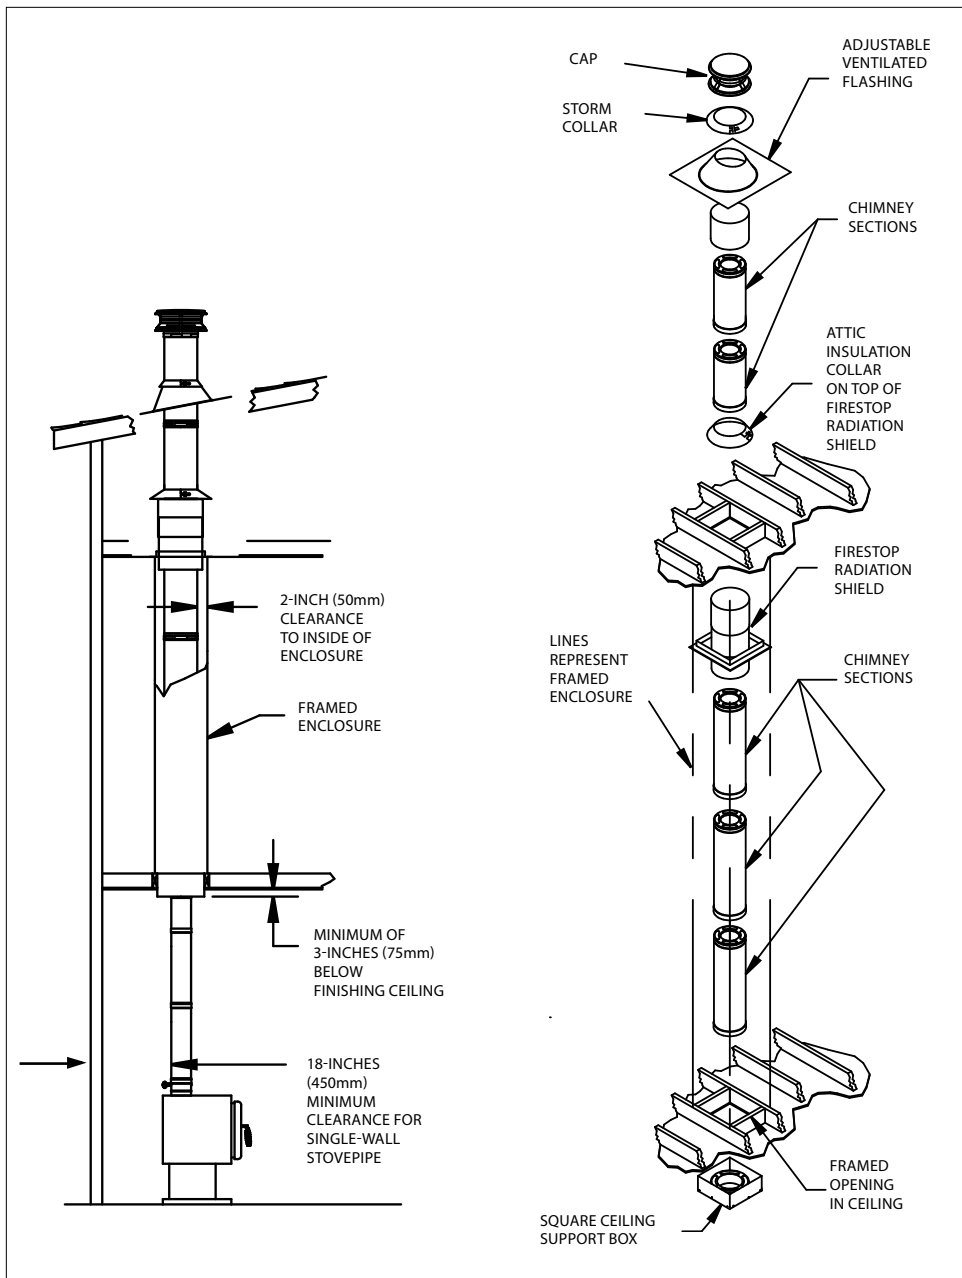

Figure 7
4. Frame Openings: Cut and frame additional openings in each ceiling or floor above the Support Box (**Fig 7**). Refer to **Table 2** for dimensions. These openings are to hold the Firestop Radiation Shield. Locate each opening by using a laser level or dropping a plumb bob to the four corners of the opening below. If Elbows must be used to avoid an obstruction, refer to the Offset Elbow Installation section.
6. Install Firestop Radiation Shield: A Firestop Radiation Shield is required in multistory installations at each floor penetration above the level at which the Support Box is located. Example: in a multistory home where the appliance is on the ground floor (Support Box is in the 1st floor ceiling), you would need a Firestop Radiation Shield at the 2nd floor ceiling, and at the 3rd floor ceiling, etc., including where the chimney penetrates into the attic. **Figure 7** shows a typical 2-story installation with an attic. **Note:** a Firestop Radiation Shield is not installed where the chimney penetrates through the roof.